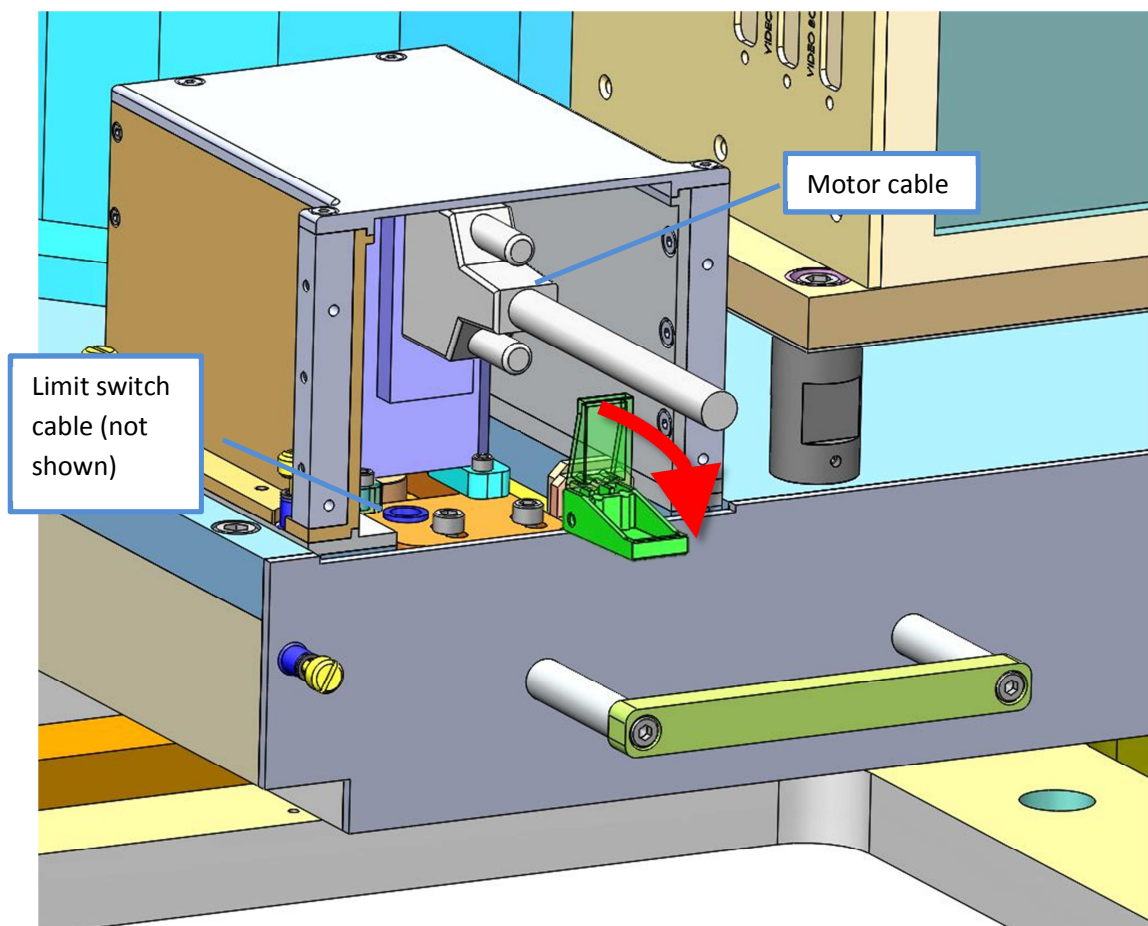

Figure 6
6. Disconnect the motor cable and the limit switch cable on the shutter. These are shown in Fig. 6
8. Turn the shutter lever arm as shown in Figure 6 to free the shutter.
6. Connect the motor cable and the limit switch cable on the shutter. These are shown in Fig. 6